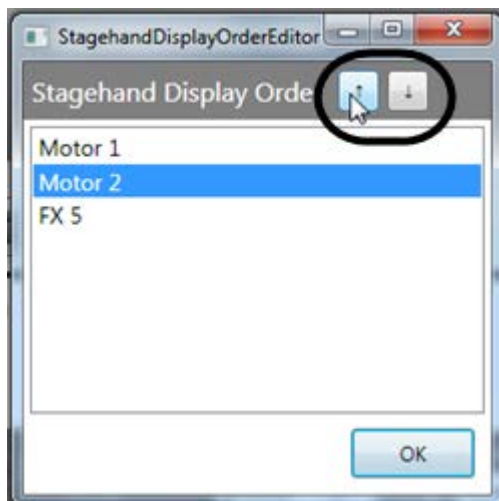

Figure 241
2. In the **Stagehand Display Order Editor** dialog box, select the motor that you wish to move and then use the up/down arrow buttons to rearrange the display order (Figure 241).